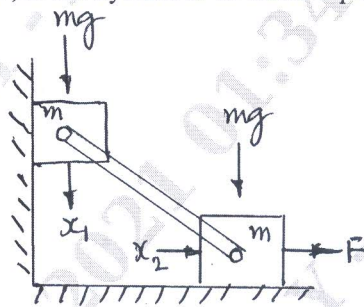

Fig.Q3(c)
- c. A simple mechanical system as shown in Fig.Q3(c) consists of two frictionless blocks of equal mass ( $m$ ) are connected by a massless rigid rod. Using principle of virtual work, determine the force  $F$ , if the system is in static equilibrium.